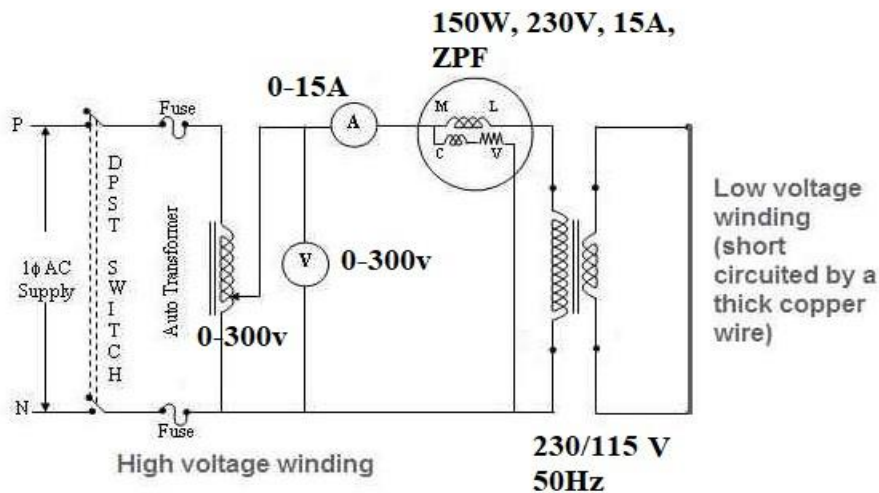

Fig.2. Circuit Diagram for Short- Circuit test of Transformer
1. Connections are made as per the circuit diagram fig2.